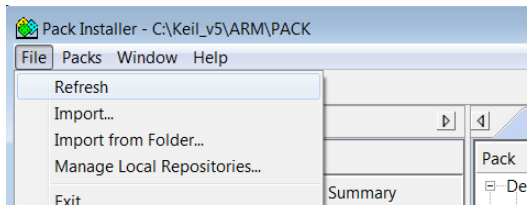

Figure 18. Refresh Pack after installation
4. After installation, use **File > Refresh** as shown in Figure 18 to update your pack properties.